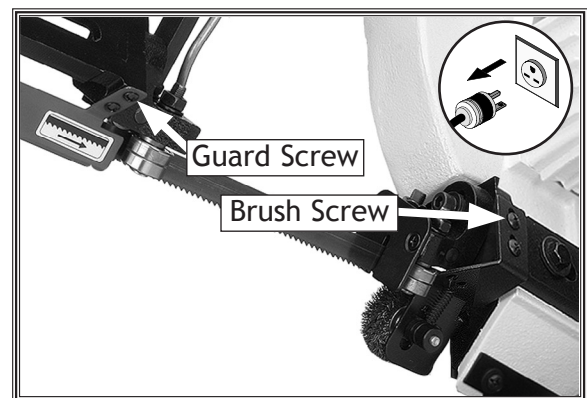

Figure 38. Blade accessories.
3. Open the blade guard door, and use a screwdriver to remove the blade guide blade guard and the wire wheel brush (see **Figure 38**).